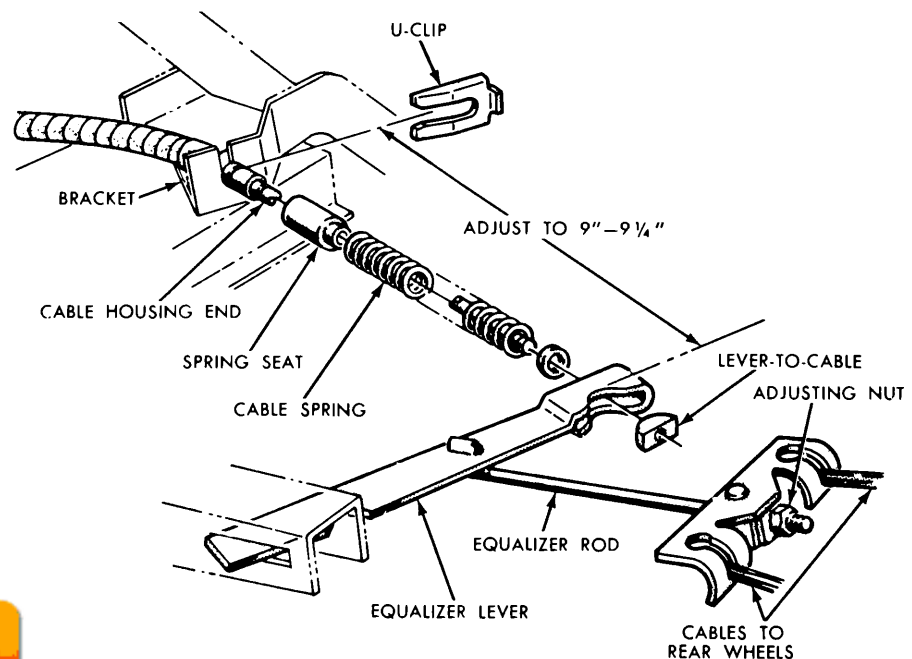

FIG. 1—Parking Brake Adjustments
3. Adjust the equalizer lever against the cable spring on the pedal cable to the dimension shown in Fig. 1.
The disc brake is a fixed caliper, opposed piston, non-energized, ventilated disc type, actuated by a hydraulic system (Fig.1). There is no lateral movement of either the disc (rotor) or the caliper. The caliper assembly consists of two caliper housings bolted together with each half containing two cylinder bores of $1\frac{3}{16}$ " diameter. Each cylinder bore